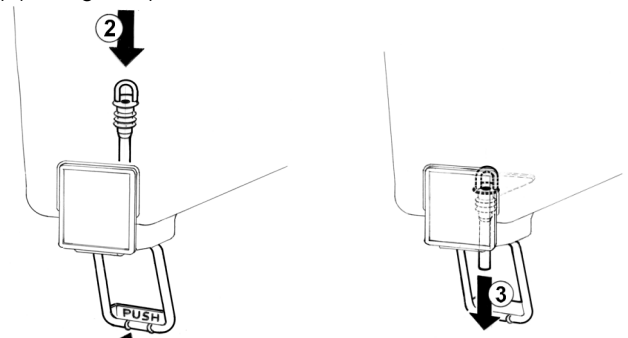

figure 4
2 **Pinch tube faucet:** push the dispensing handle (1) and insert the pinch tube into its vertical seat in the bowl bottom(2). Lightly pull the pinch tube end downwards til it is well arranged (3) (see figure 4).